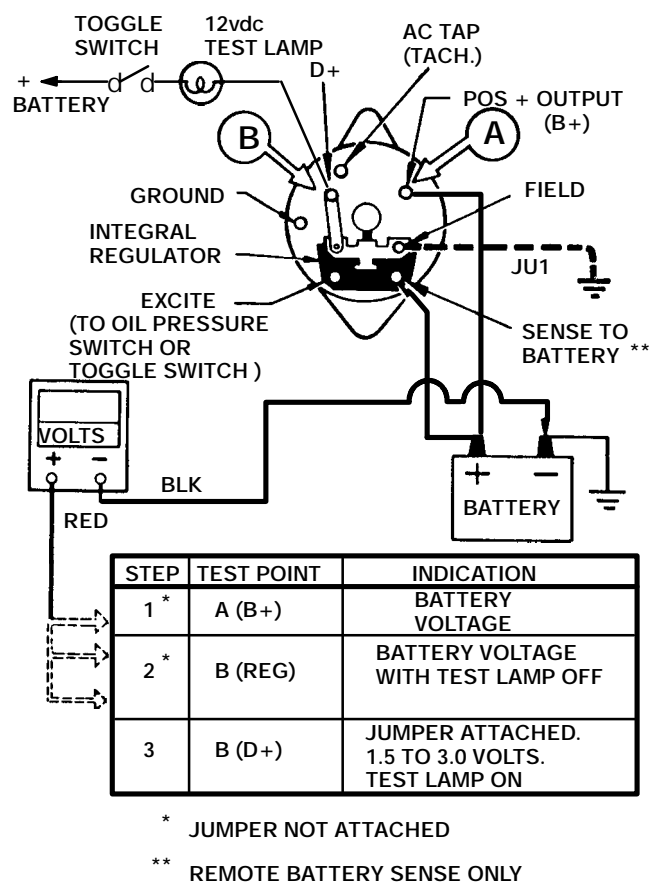

Figure 4-9. Open Regulator Test – 65 Amp
CONDITIONS: Engine stopped (start-run-stop switch in the RUN position) and voltmeter set-up as shown in Figure 4-9.
b. Add jumper JU1 between field and ground (see Figure 4-9). If 1.5 to 3.0 volts is present at terminal B and the test lamp is on, the regulator is open. Alternator should be removed for repair.